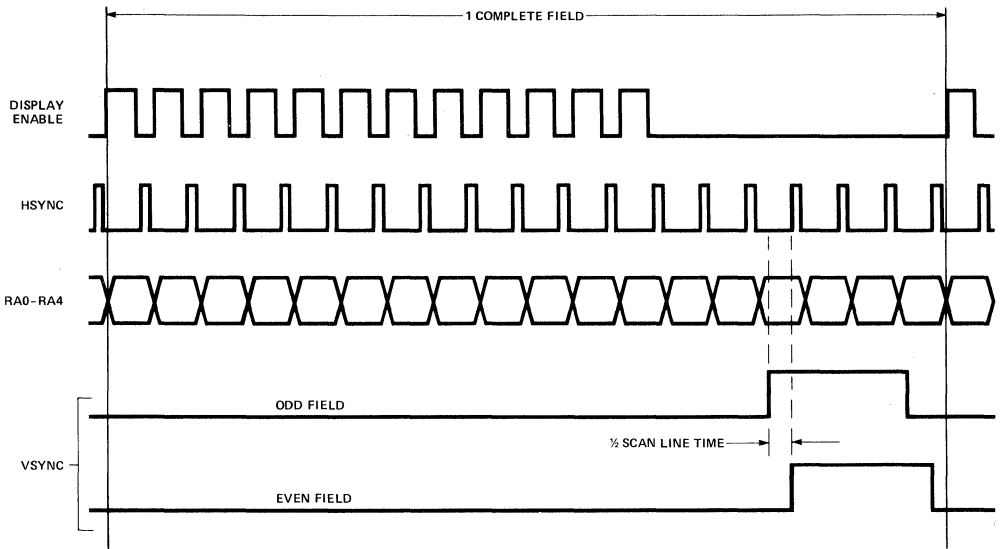

Figure 11. Interlace-Sync Mode Timing
b) Interlace-Sync Mode. This mode is used when the same information is to be displayed in both odd and even fields. Enhanced readability results because the spaces between adjacent rows are filled and a higher quality character is displayed. This is achieved with only a slight alteration in the device operation: in alternate fields, the position of the VSYNC signal is delayed by $1/2$ of a scan line time. This is illustrated in Figure 11 and is the only difference in the SY6845 operation in this mode.